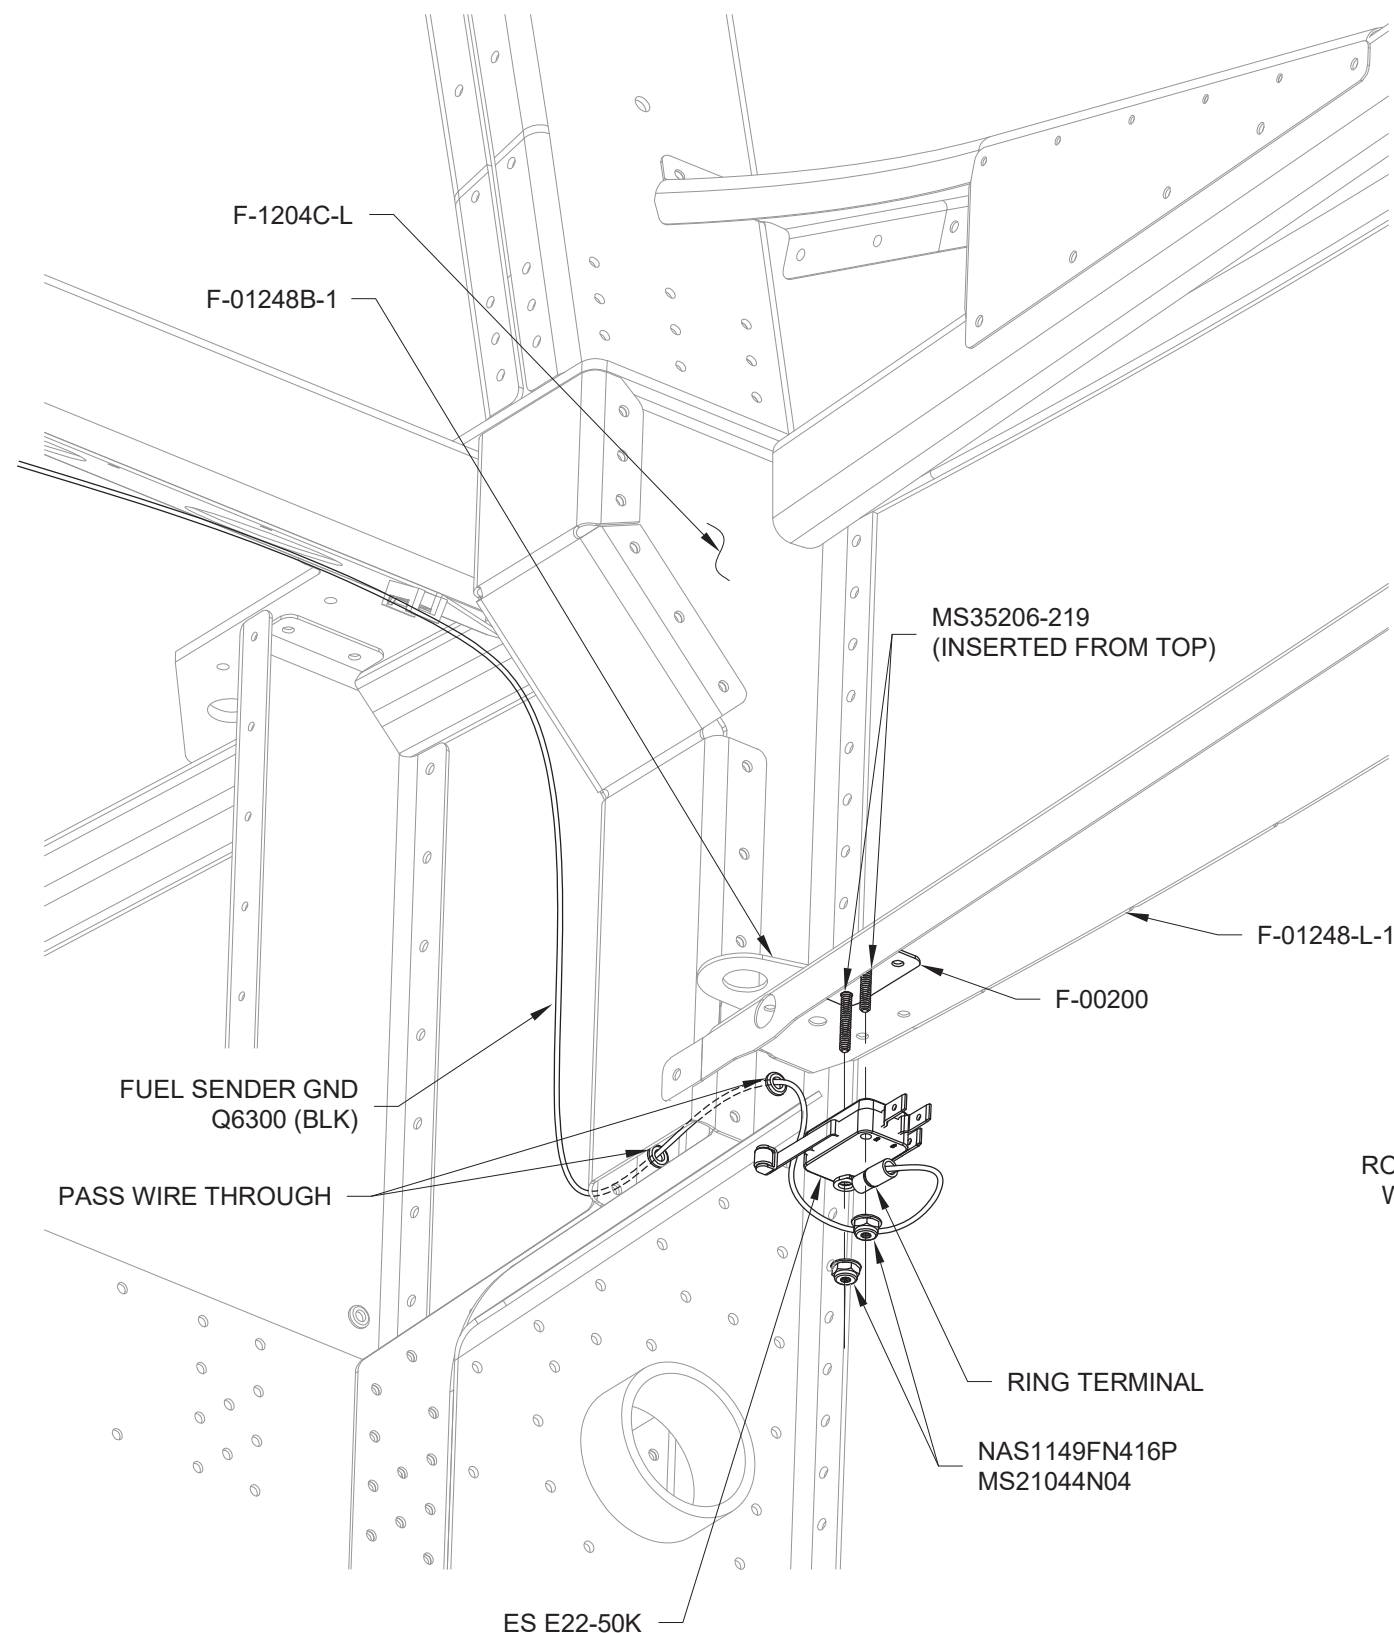

FIGURE 1: INSTALLING LEFT SPAR PIN SWITCH
Step 1: Cut the roller off of the lever arm of the ES E22-50K-1 to fabricate the Canopy Latch Switch as shown in Figure 1.